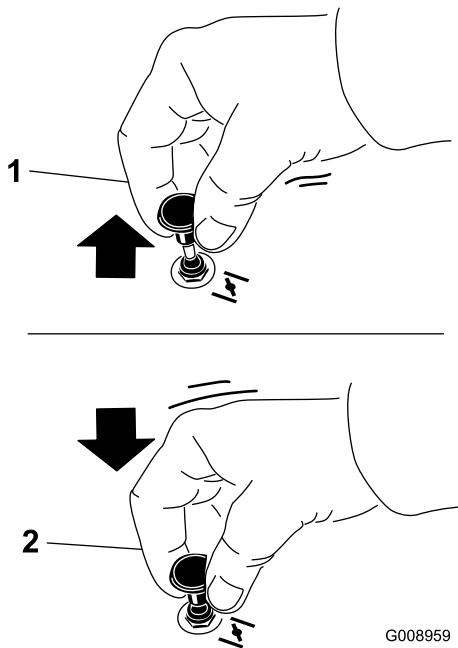

Figure 16
1. Pull up the choke knob to engage the choke before using the ignition switch (Figure 16).
2. Push down the choke to disengage the choke after starting the engine (Figure 16).